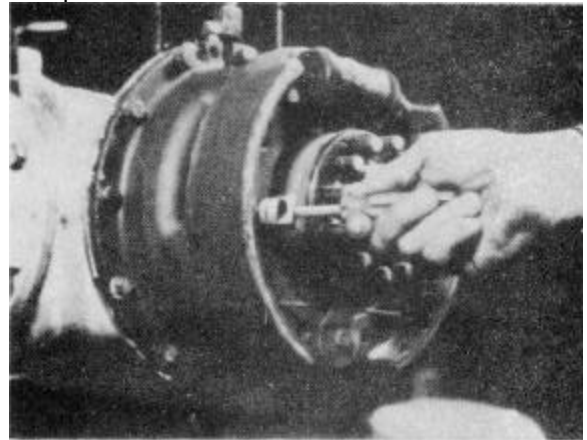

Figure 5-15
2. Both shoe retainer springs must be removed to free shoe from the backing plate. Push uppermost spring retainer cup inward and rotate ninety degrees to either side. Pull cup forward and clear of rod. Remove coil spring and inner spring retainer cup. Fig. 5-15 shows location of rear brake shoe retainer assembly. Repeat procedure for front brake shoe removal.